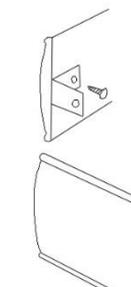

Figure 5
- Screw pelmet return clip (part D) onto the back of the pelmet and attach pelmet returns (Figure 5)